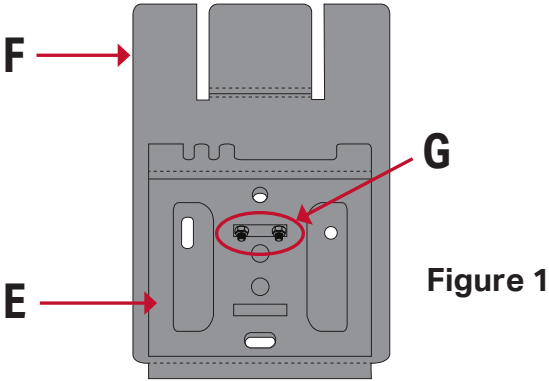
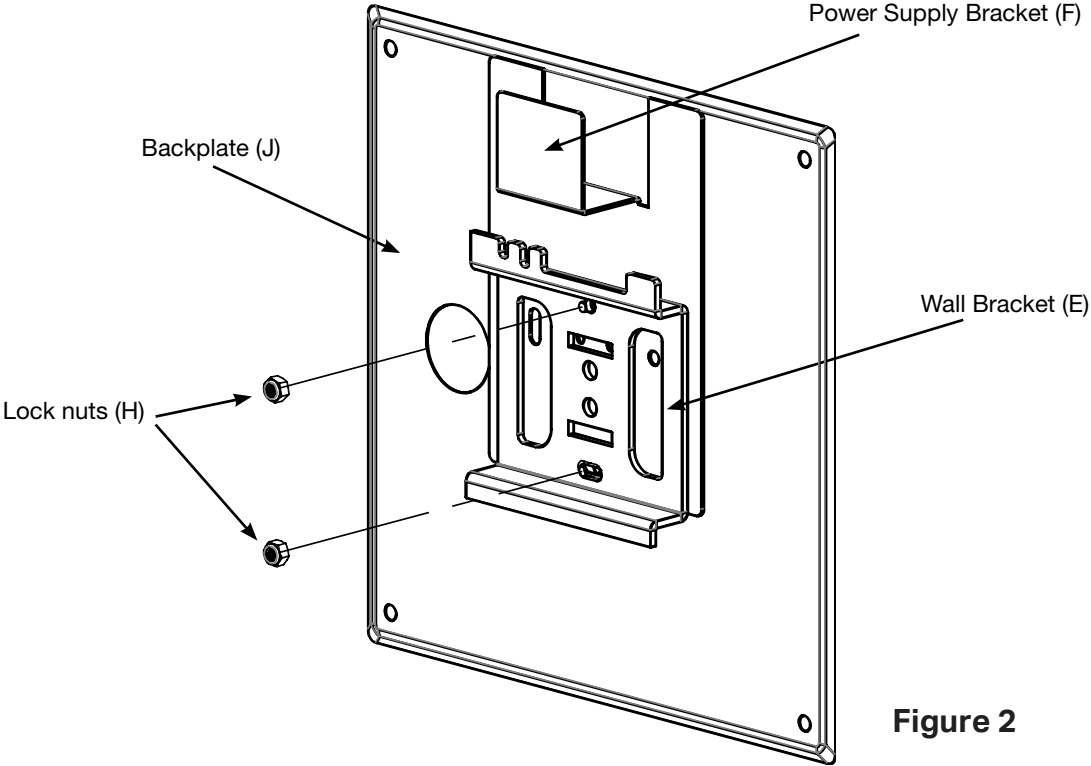

Figure 1
Figure 2
- a. Lay the power supply bracket (F) on a flat surface.
- b. Position the bracket base (E) over the studs as illustrated in **Figure 1**.
- c. Using the two nuts (G) supplied, tighten the wall mount base to the power supply bracket.
2. Determine which way the backplate (J) will be oriented; the backplate can be mounted with the large access hole on either the bottom right or left side, with the hole placed over the existing electrical box.
4. Once the orientation has been determined, attach the assembled power supply bracket (F) and wall mount bracket (E) to the backplate (J) studs as shown in **Figure 2**, using the 10-32 studs and lock nuts (H).
7. Attach the backplate to the wall, either to a stud or using anchors (I). Ensure all four corners are secured, using M14 X 40-60mm screws (A).